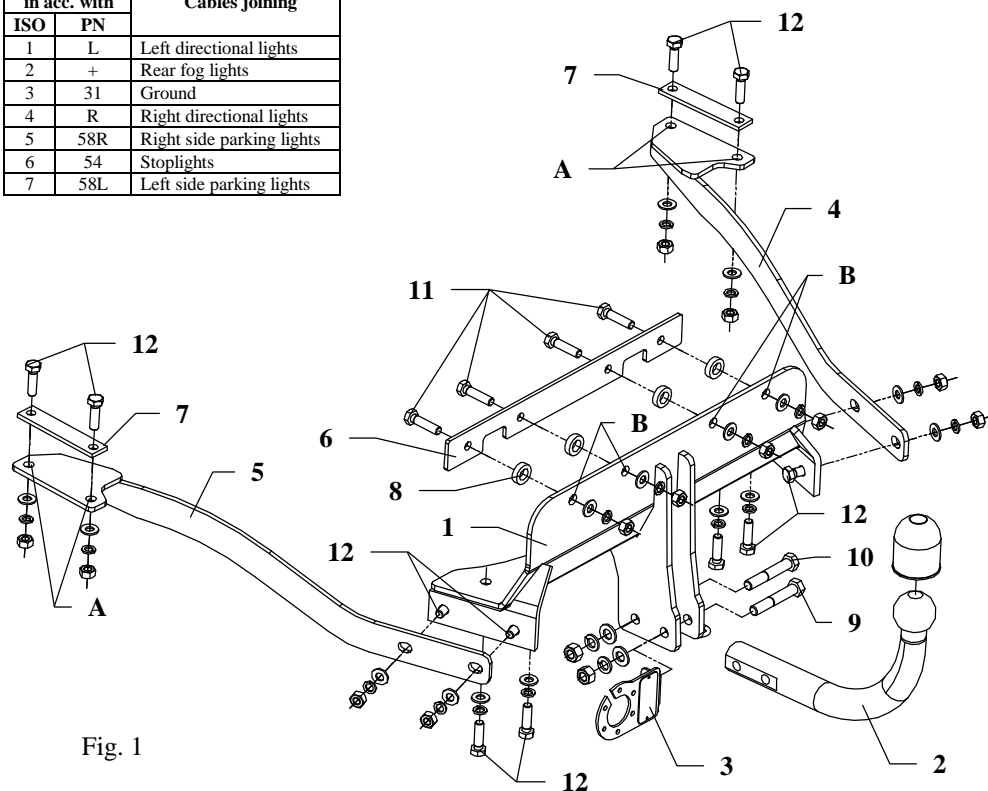

Fig. 1
5. To so prepared holes, apply the main plate (pos. 1) and fix using bolts M10x40mm (pos. 11). Use the distance sleeves $\varnothing 25$; L=7mm (pos. 8) and plate (pos. 6). Look at the drawing 1.
6. Fix side brackets (pos. 4 and 5) together with fish-plates (pos. 7) to the main plate of the towbar (pos. 1) and to the floor. See the drawing 1.
9. Fix tow ball (pos. 2) using bolt M12x75mm (pos. 9) and M12x70mm (pos. 10). With bolt M12x75mm fix also a socket plate (pos. 3). See figure 1.